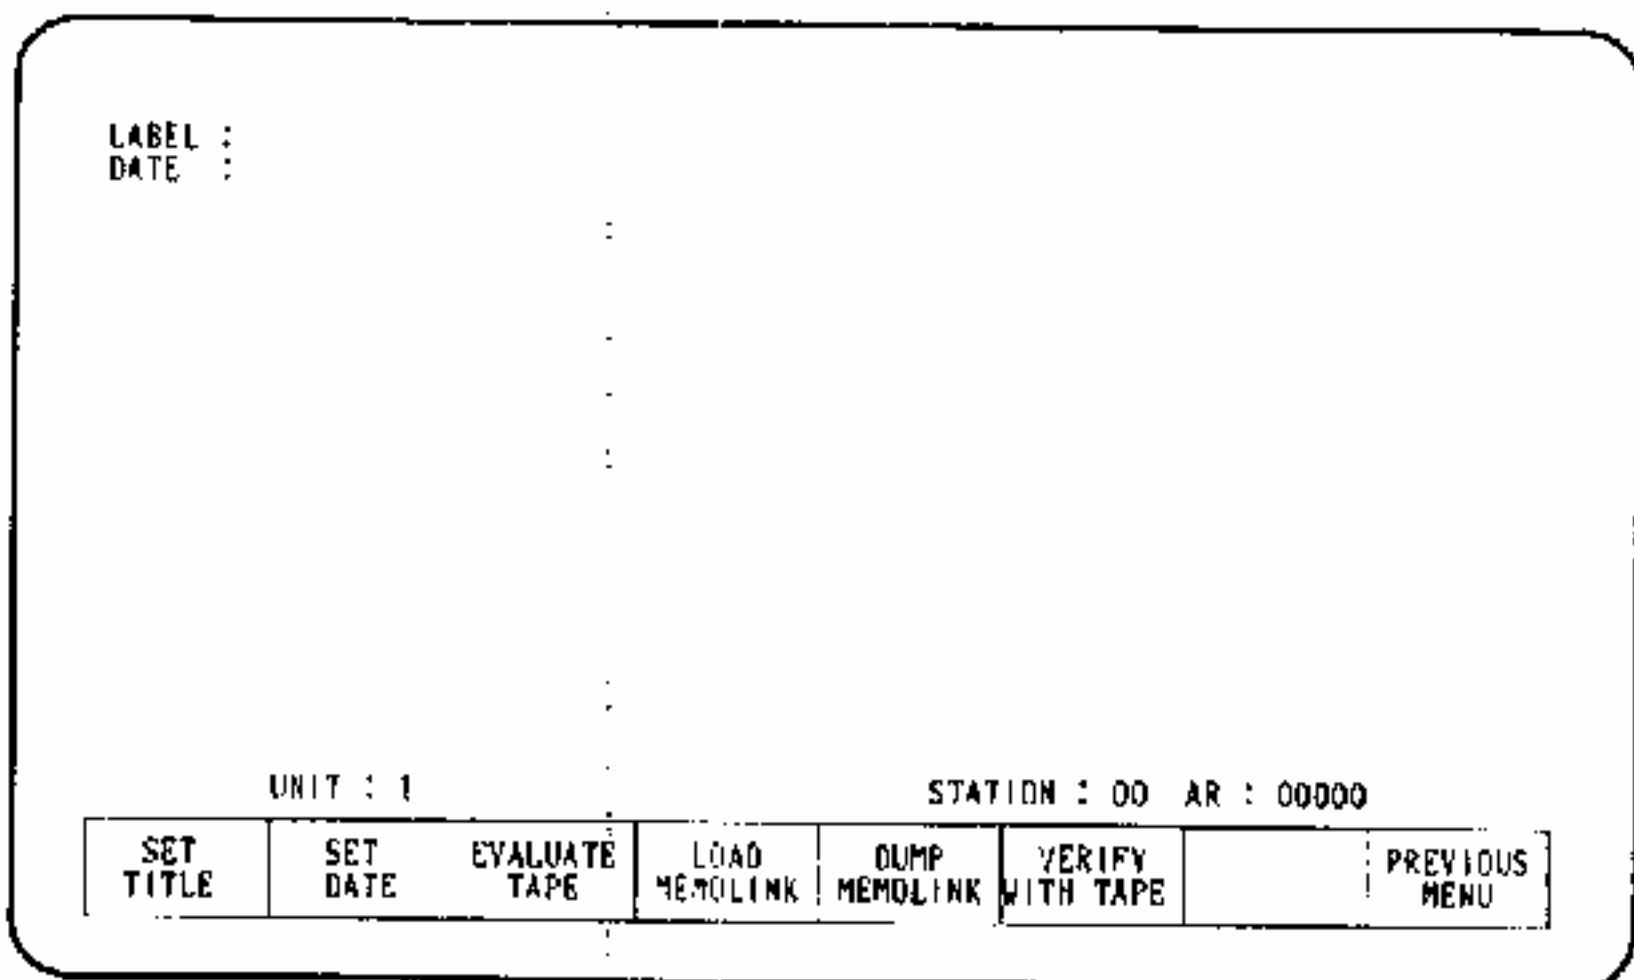

Fig. 5.1.96
3. When data is set with 6 characters, the display automatically returns to that shown in Fig. 5.1.96.